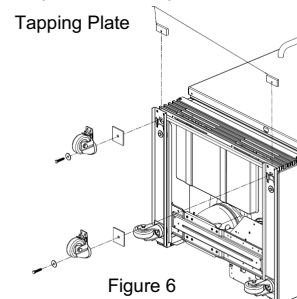

Figure 6
- Place a washer on one of the four long bolts and then feed the bolt through the hole in one of the swivel casters (see Fig. 6).
- Place the tapping plate between the front bottom of the cabinet and caster rails as depicted in Figure 6. Make sure the tapped holes in the tapping plate align with the center slot in the caster rail.